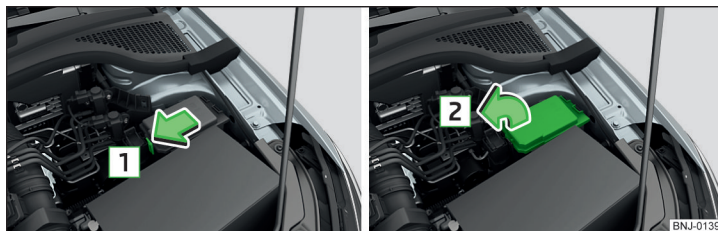

Fig. 201 Remove the cover
- Press the lock button on the cover in direction of arrow **1** » Fig. 201.